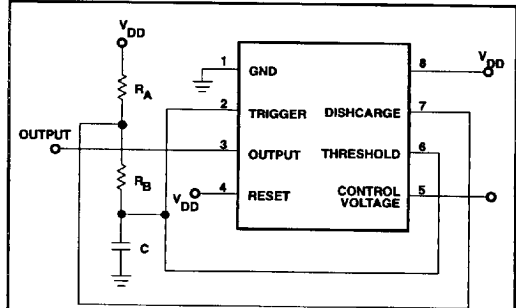

Figure 2. Astable Operation
- Astable timing is calculated using the following equation: $t = \frac{1.38}{(R_A + 2R_B)C}$. The components are defined in Figure 2.
Although the supply current consumed by the ICM7555 device is very low, the total system supply can be high unless the timing components are high impedance. Therefore, high values for R and low values for C in Figures 2 and 3 are recommended.
If the circuit is connected as shown in Figure 2, it will trigger itself and free run as a multivibrator. The external capacitor charges through R_A and R_B and discharges through R_B only. Thus, the duty cycle (D) may be precisely set by the ratio of these two resistors. In this mode of operation, the capacitor charges and discharges between $1/3 V_{DD}$ and $2/3 V_{DD}$. Since the charge rate and the threshold levels are directly proportional to the supply voltage, the frequency of oscillation is independent of the supply voltage.